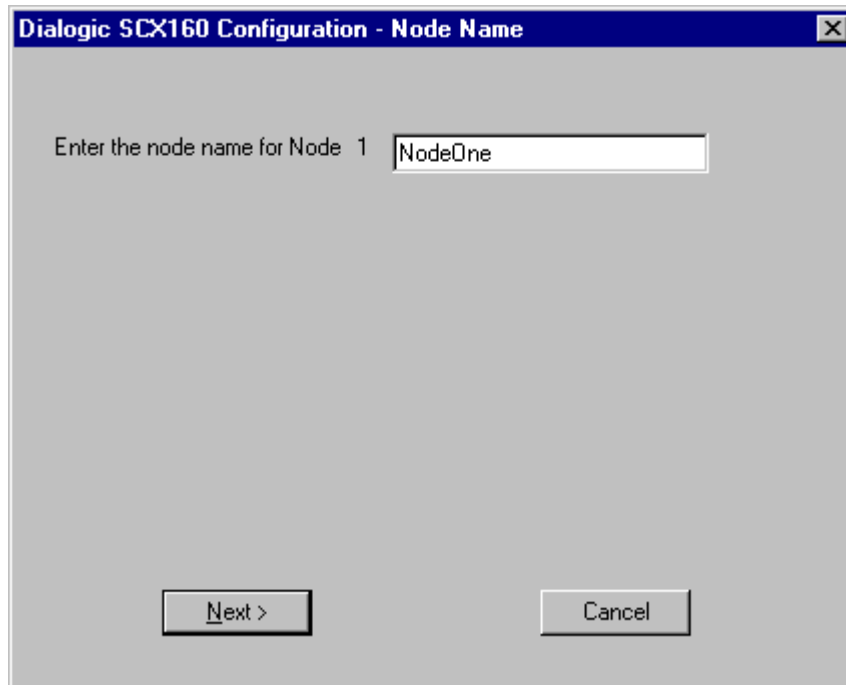

Figure 30. Node Name Window (Local MapFileFlag)
10. Enter the name of the node in the space provided (see *Figure 30. Node Name Window (Local MapFileFlag)*).